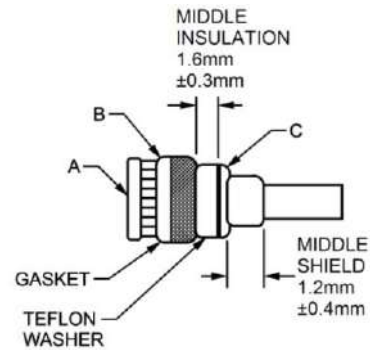

Figure 12-67 Attaching Gasket to Middle Insulation
- h. Cut middle insulation to dimension shown in Figure 12-67.
- k. Cut middle shield to dimension shown in Figure 12-67.